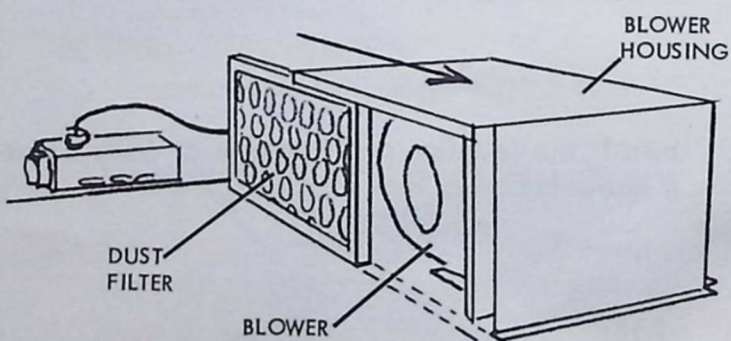

FIGURE 16
25. Slide the dust filter in the track provided in the housing. (Figure 16)